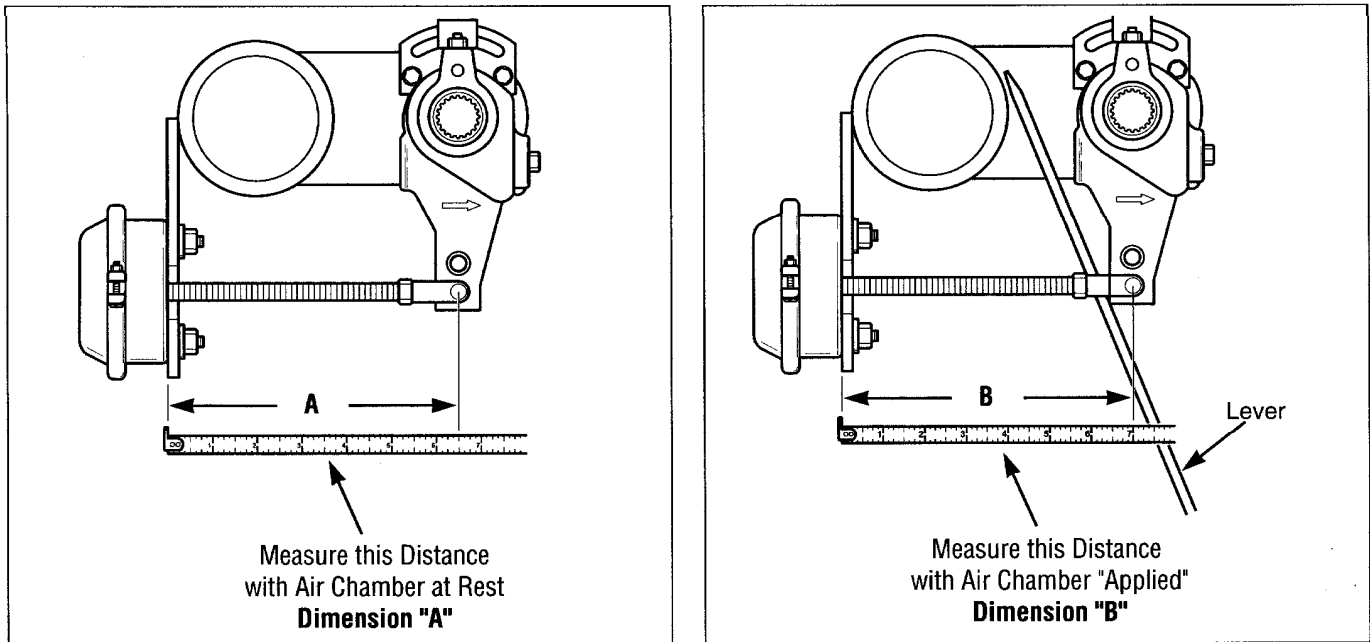

Figure 7-5 – Adjust Slack Adjusters
Chock tires and release brakes. Measure the distance (A) with brakes released. See Figure 7-5. Use a lever to move slack adjuster until brakes contact the drum and measure the distance (B). Subtract distance A from distance B. The result is the free stroke. Adjust slack adjuster so the free stroke is 3/8 – 5/8 inch on each slack adjuster.